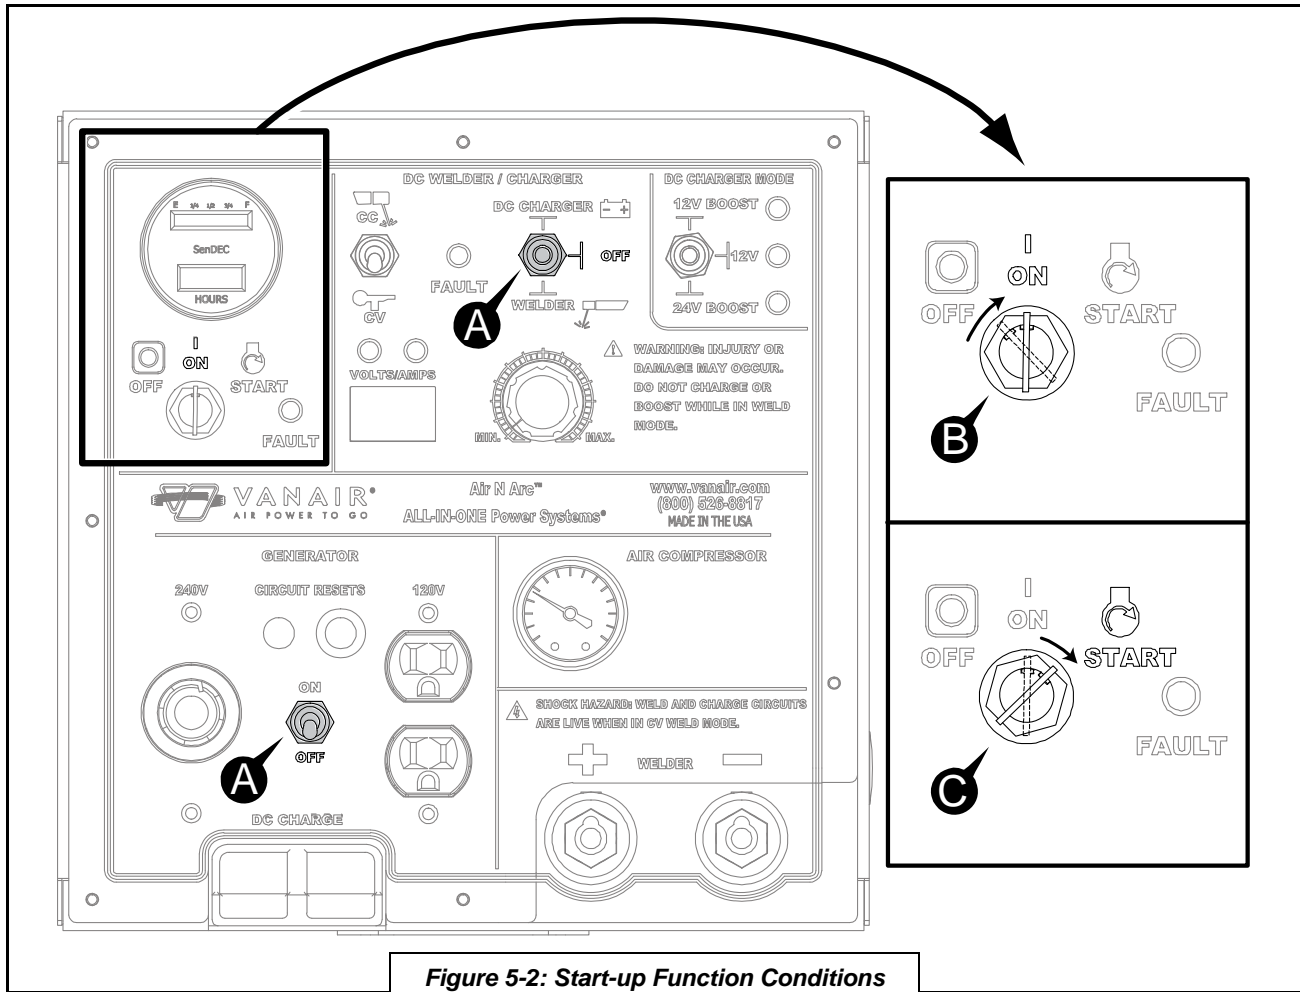

Figure 5-2: Start-up Function Conditions
Consult **Figure 5-2**, and the following steps:
3. Turn the **Generator** and **Welder/Charger** switches on the control panel (**Figure 5-2, [A]**) to their **OFF** positions.